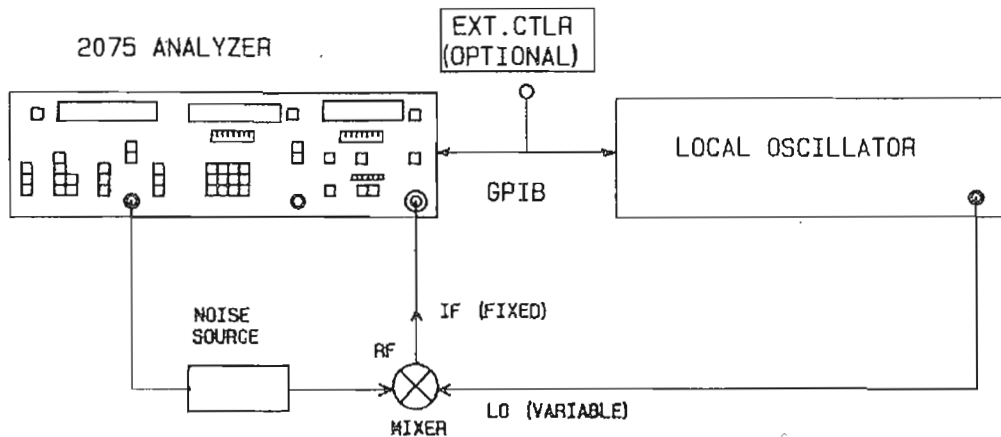

Figure 3-7a. TEST CONFIGURATION 2 CALIBRATION (DOUBLE SIDEBAND)
Figures 3-7a and 3-7b are the connection diagrams for calibration and measurement when external relays are not used. An optional setup can be used where external relays, controlled by the 2075, are used to provide a calibration path. (Refer to Paragraph 3-34, page 3-75.)
1. Connect the test equipment as shown in the calibration setup of Figure 3-7a or the optional setup using external relays.